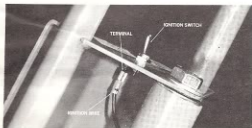

Figure 5
- Attach ignition wire to switch at terminal provided. (See Fig. 5.)